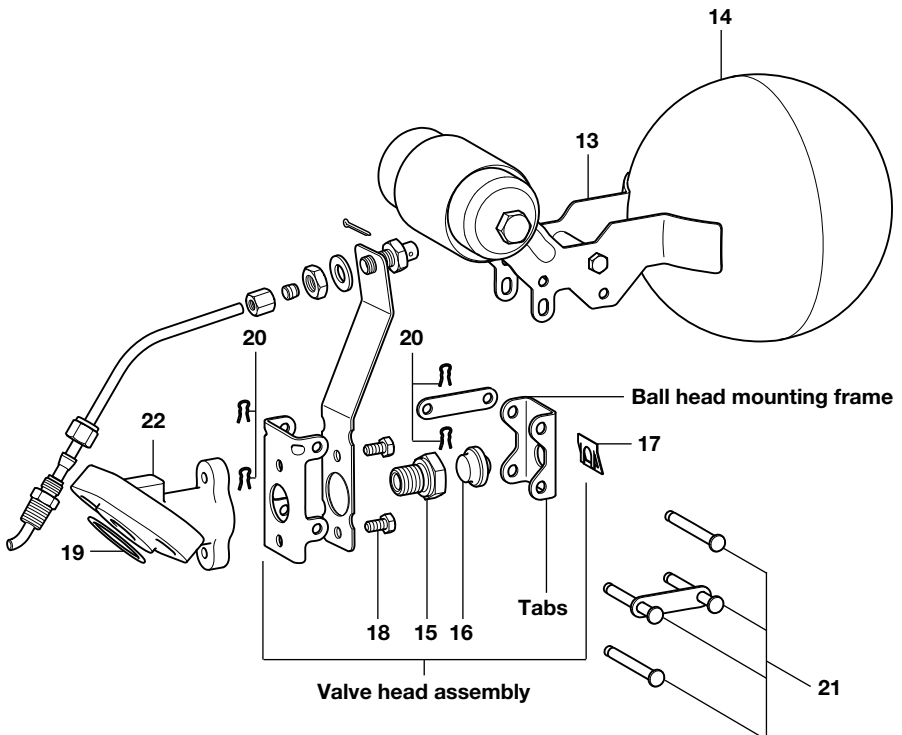

Fig. 9 Seat and ball head replacement
6.5 Servicing the mechanism assembly (Mechanism seat (15) and ball head (16))
- Once removed, the mechanism assembly (13) is easily disassembled by removing each spring clip (20) at the end of each pivot pin (21). The pins may then be withdrawn.
- The valve seat (15) and ball head (16) can now be accessed and replaced if necessary.
- To replace the seat (15) unscrew the old one from the mounting bracket (22). Tighten the new seat (15) to the recommended torque (see Table 1, page 20). There is no need to remove the pressed steel pivot frame during this operation.
- To replace the ball head (16) simply remove the retainer (17). The old ball head (16) should drop out of its frame. Fit the new ball head (16) through the pivot frame and refit the retainer (17). Ensure that the ball head (16) and the tabs on the frame are on the same side as one another. The retainer (17) should be on the opposite side to the tabs on the pivot frame (as shown in Figure 9).
- Reassemble the mechanism assembly (13) as shown using the pivot pins (21) and spring clips (20). Refit the mechanism assembly as instructed under Section 6.4.